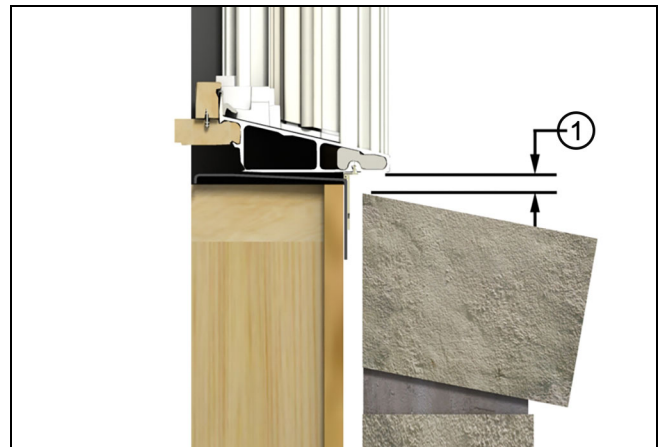

Figure 5 Avoid brick bind, maintain $1/2"$ gap
NOTE: On standard wood frame construction with brick veneer, make sure there is at least $1/2"$ (13) between bottom of window sill (or eventual placement of the window) and the top row of brick to avoid "brick bind". See Figure 5.